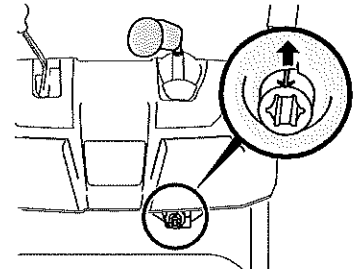

Figure 2-17
5. Rotate joystick to one o'clock position so that indicator arrow on pinion gear below control panel faces upward. See Figure 2-17.